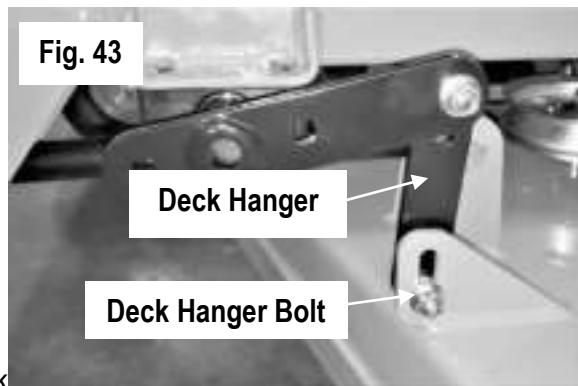

Fig. 43
4. Using a pair of  $\frac{9}{16}$ " wrenches, loosen all deck hanger bolts on the top of the deck. These are the lower bolts in the slots of the deck as shown in Fig. 43. Do not loosen the upper bolts that attach the deck hangers to the actuator lift bars.